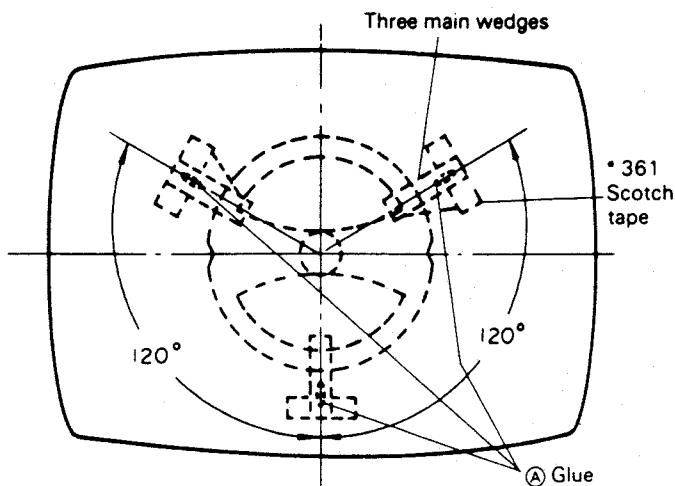
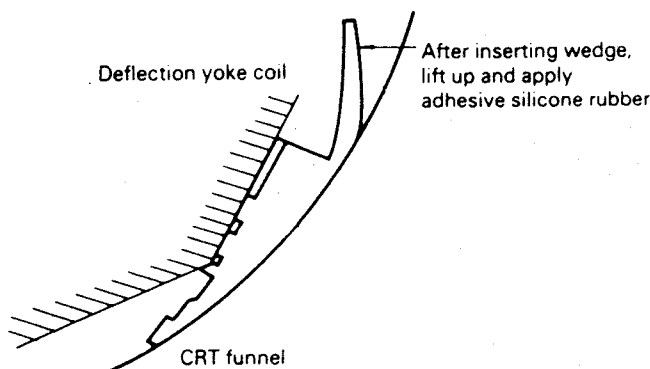

Fig. 11 Mounting the Wedge
Fig. 12 Deflection Yoke Fixing Method
- (1) Before inserting the main wedges, apply No. 3145 RTV silicone rubber to the place where the main wedges will contact the deflection yoke coil. (Refer to Fig.12 .)
- (2) Insertion pressure of wedges should be more than 10 kg.
- (3) Apply adhesive (No. 3145 RTV silicone rubber) between the wedge and the CRT funnel (refer to Fig.11 and Fig. 12.), and then use Scotch tape No. 361 to cover any open spaces.
- (4) Apply paint lock to the static magnets and the deflection yoke setscrew.